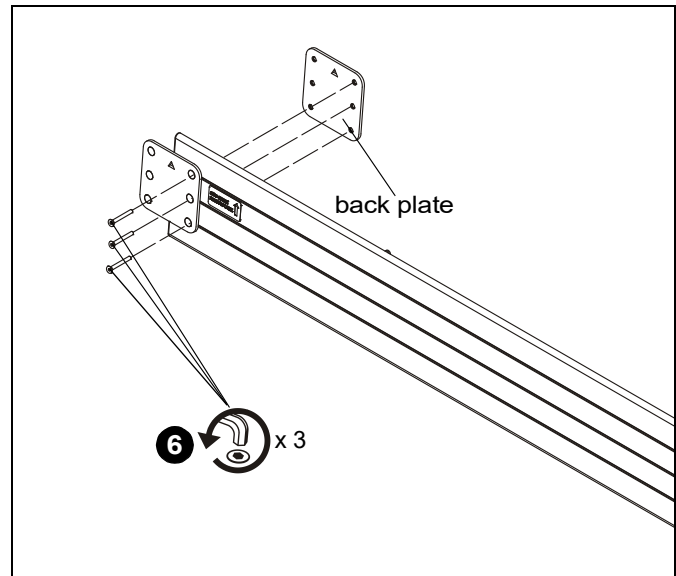

Figure 4
6. Remove three screws holding plates to FCA624 interface (C) in order to remove back plate. (See Figure 4)